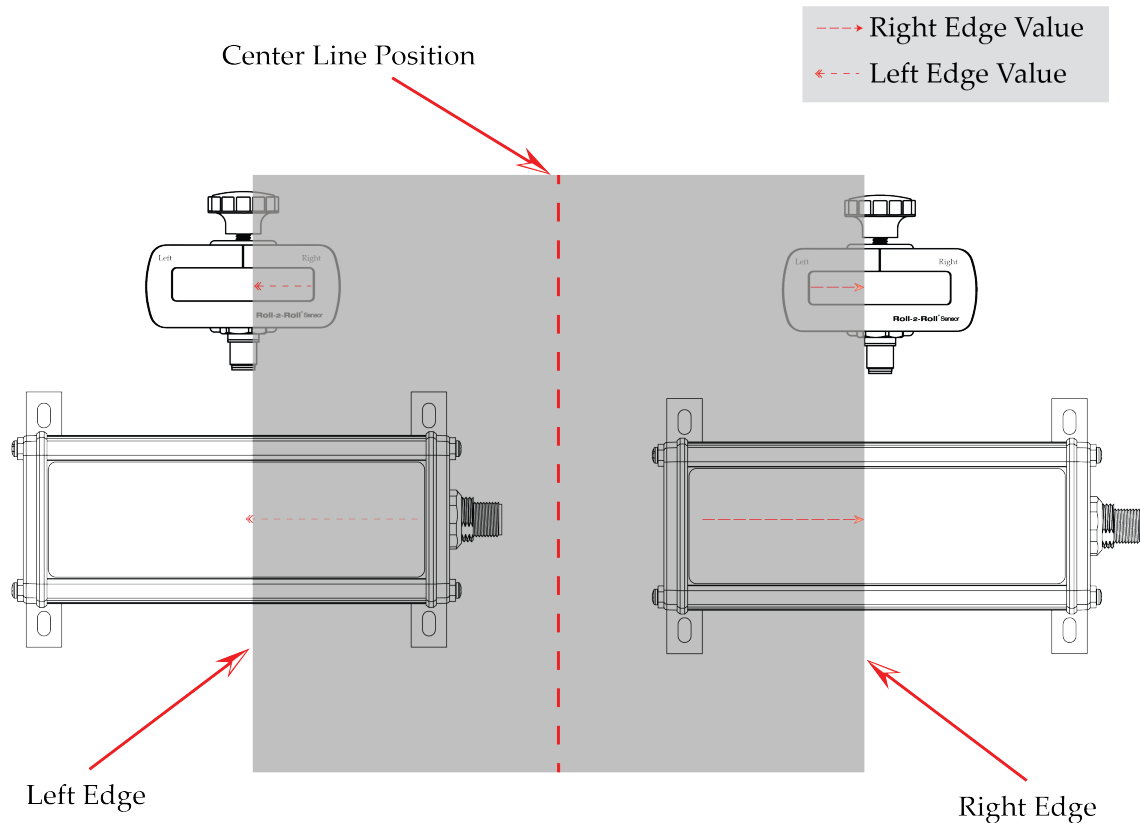
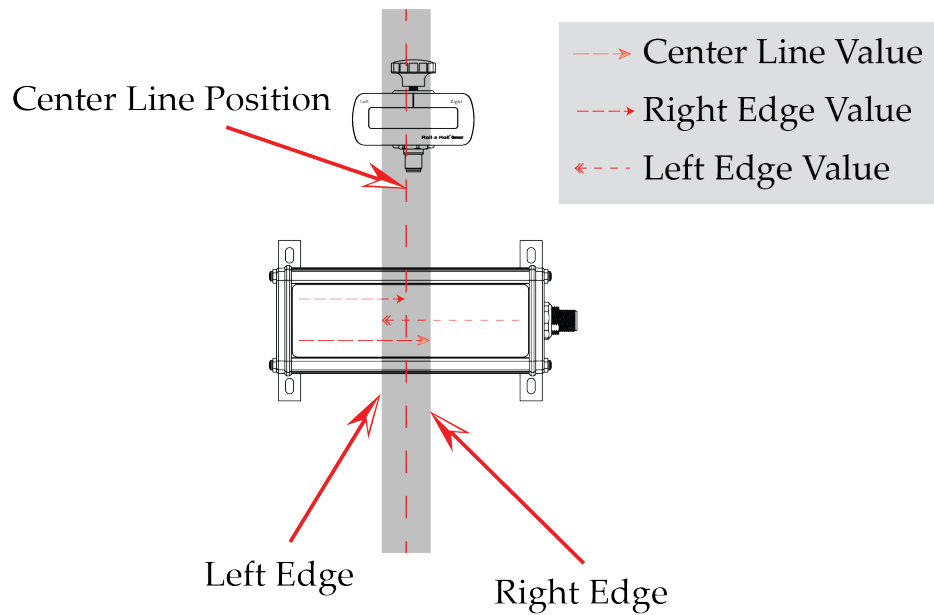

Figure 5.91: Centerline position of the web when using two sensors; one configured to left and the the other right.
Figure 5.92: Centerline position of the web when using a single sensor that can detect both the left and the right edge.
- *When two sensors are used (as shown in Figure 5.91), the left edge position value on the analog output will only correspond to the sensor configured to measure the left edge position. The scaling for the analog output will only depend on the respective sensor's resolution and number of pixels.*
- *Even if the width of the web is less than the sensor range (as illustrated in Figure 5.92), the position of the left edge will consistently correspond to the location of the left edge. The width of the web does not impact the value of the left edge that is given as the output.*
- *When two sensors are connected and enabled, with one sensor oriented to the left and the other to the right, the analog output can be set to the left, right, or centerline position, as illustrated in Figure 5.91. If either sensor is set to the center orientation, the output becomes more intricate. For detailed guidance on this sophisticated setup, please contact Roll-2-Roll Technologies.*
Even if the width of the web is less than the sensor range (as illustrated in Figure 5.92), the position of the right edge will consistently correspond to the location of the right edge. The width of the web does not impact the value of the left edge that is given as the output.
to the right, the analog output can be set to the left, right, or centerline position, as illustrated in Figure 5.91. If either sensor is set to the center orientation, the output becomes more intricate. For detailed guidance on this sophisticated setup, please contact Roll-2-Roll Technologies.
The Roll-2-Roll® Controller is capable of determining the centerline position of a web using two different methods. One approach involves the use of two sensors, with one sensor detecting the position of the left edge and the other sensor detecting the position of the right edge, as illustrated in Figure 5.91. The calculation for the centerline measurement is detailed in the equation provided in Section 5.1.3. Alternatively, if a single wide sensor covers the entire width of the web, it can be configured to measure the centerline position, as shown in Figure 5.92. In this setup, the centerline position measurement is obtained by averaging the positions of the left and right edges, as explained in Section 5.1.3. This measurement of the centerline position can be presented as an analog output when the analog mode is configured to center.
- When employing two sensors, the offset value or the distance between the two sensors is not incorporated into the output when opting for the absolute width output. The analog output will solely mirror the combined portions of the web detected by both sensors. This corresponds to the total of the value of the left edge and the value of the right edge, illustrated in Figure 5.91.